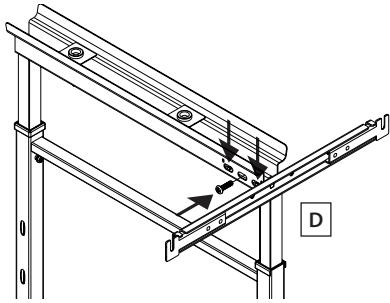

fig. 8
9) The top and bottom of the pantry use the T type door mount brackets (D). Remove center screw as shown in figure 8, insert bracket and then connect the bracket to the top of the frame with center screw. Tighten this screw and final door adjustments will be made later.